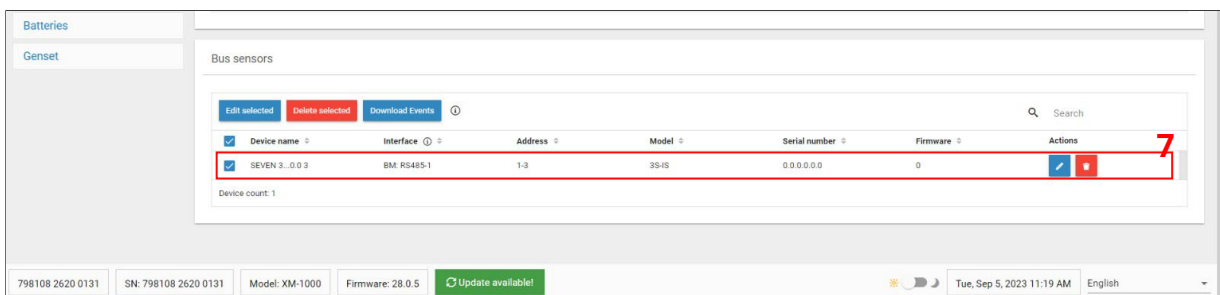

Figure 4: Found Sensors
**Step 7 :** When the connection with SEVEN Sensor Box is established, it will be displayed in the **"Bus Sensors"** section as shown in Figure 4.